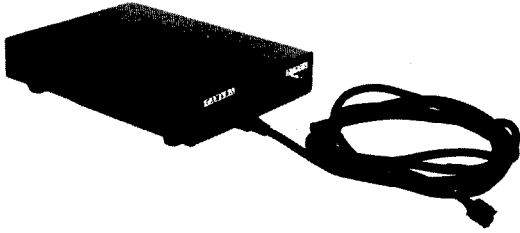

Fig. 1-4
- Electric Variable Resistor (E.V.R.) kit (Part No.: YWV0EA0182AN) as shown in Fig. 1-4.